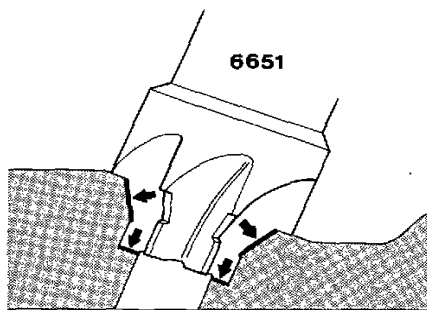

Fig. 155. Cutting the seat for the copper sleeve (step 1)
1. First clean with cutting tool 6651 until the tool bottoms against the seat's upper sealing surface and stops cutting. The tool cuts where the arrows point, fig. 155.